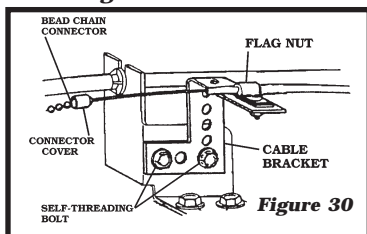

Figure 30
4. The **FLAG NUT** may also be used to anchor the **CRUISE CABLE** using the **CABLE BRACKET**. **Figure 30**